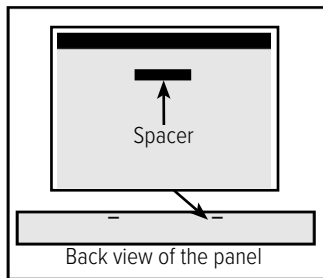

Figure 2.4.2
2.4.2 A spacer is glued on the back of the hand rail panel for each reveal to rest on when installed. The spacer is approximately 1” below the top edge of the hand rail panel so the end of the reveal is not visible as shown in Figure 2.4.2.